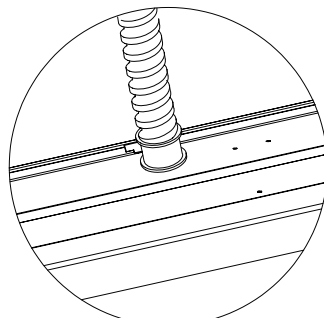

FIG.7
- 3 When making electrical connections, employ UL-approved wire connectors and conduit, adhering to local codes, to connect the fixture to the main power source. (Figure 7)